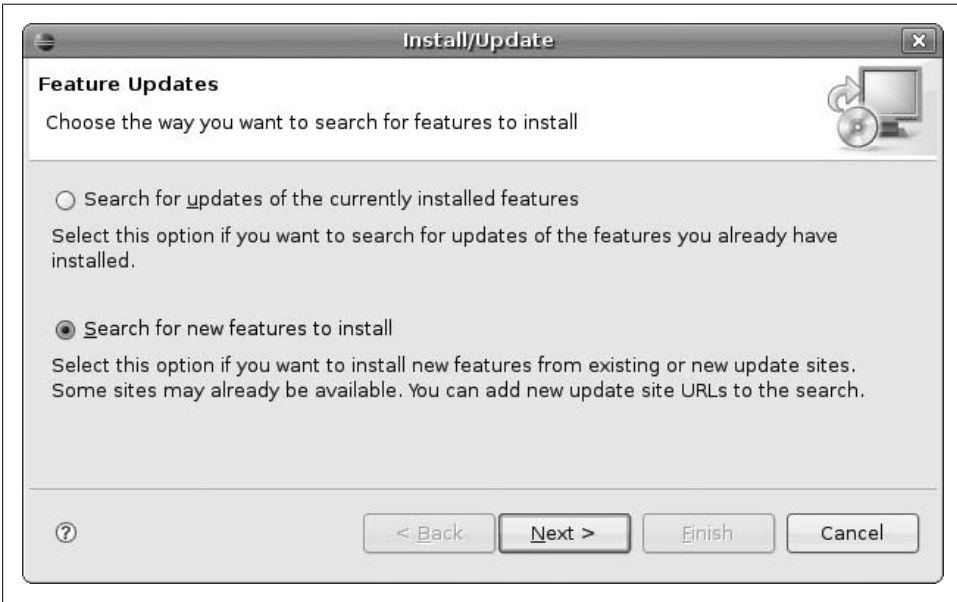

Figure 4-8. Eclipse Install/Update dialog
2. In the Install/Update dialog that appears, choose “Search for new features to install” and click Next (Figure 4-8).